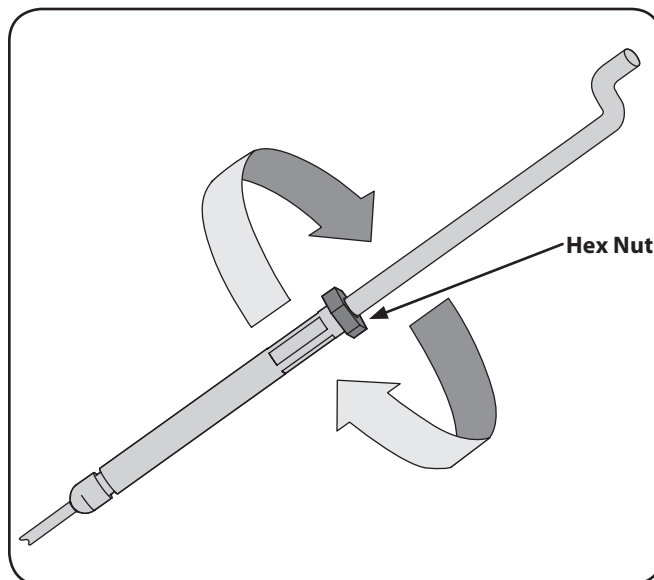

Figure 6-4
4. Retighten the lock nut against the cable collar. See Fig. 6-4.